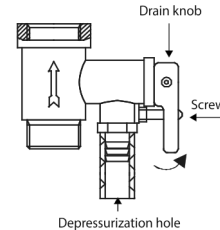

Fig. 9
- for SWH FSL3 series vertical-type water heaters: unscrew retaining nut of the thermal switch, fastened on the flange of the heating element, turn the thermal switch and press the button, located in the center of the thermal switch, until it clicks; Fig. 9